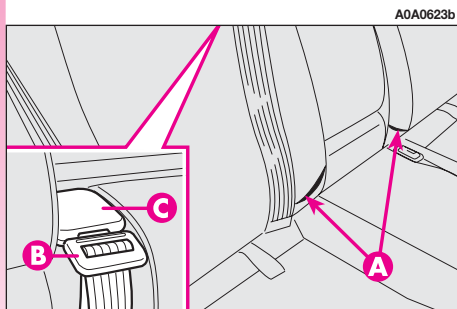

fig. 20
– check that seat buckles of the side belts are fitted in the respective pockets on the back rest (**A-fig. 20**) and the tab (**B**) of the centre abdominal belt is inserted in the support (**C**).